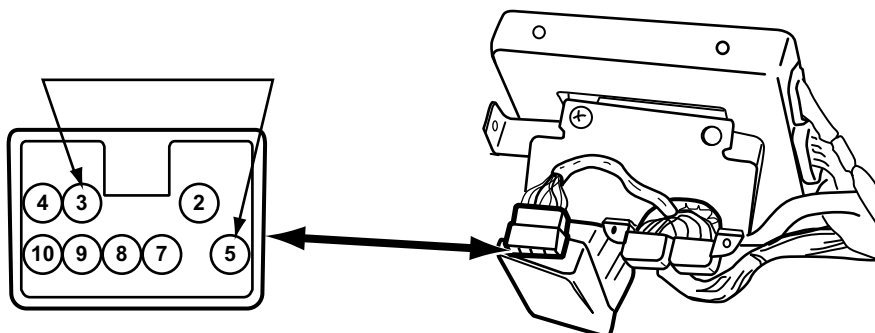

Figure 7-13 1990–95 Tracker RWAL ABS connector jump pins
3. Release the parking brake and jump pins 3 and 5 (Figure 7-13) for two seconds, then remove the wire to flash codes.